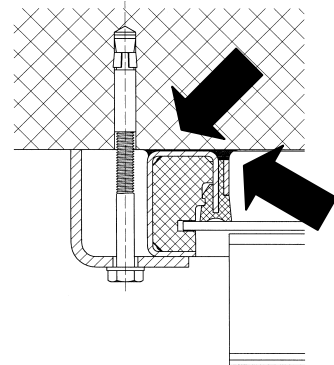
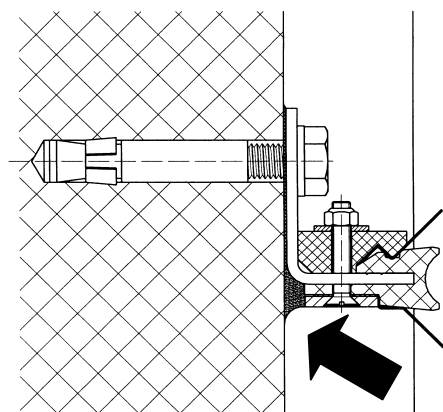

Fig. 5
Fig. 7
- When tightening the bolts, the sealant gets squeezed out on both sides of the frame. Smoothen sealant with finger to a clean grout (Fig. 5).
- For sluice gates with transverse seal an additional grout is necessary after tightening between wall and transverse seal acc. Fig. 7.
- After mounting the actuating components (acc. 3.4) the sluice gate shall be opened and the sealant on the inside of the frame and transverse seal shall be smoothed to a clean grout acc. Fig. 5 and Fig. 7.